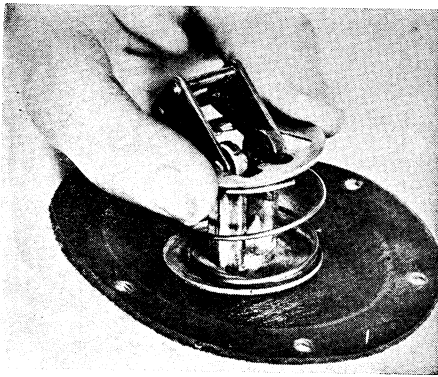

Fig. 17 Assembling spring and washer on diaphragm
2. Install new diaphragm and gaskets in control valve. Clean all flange surfaces to insure an air-tight fit. Compress diaphragm spring and washer as shown in Fig. 17 to assemble link pins in valve stems.